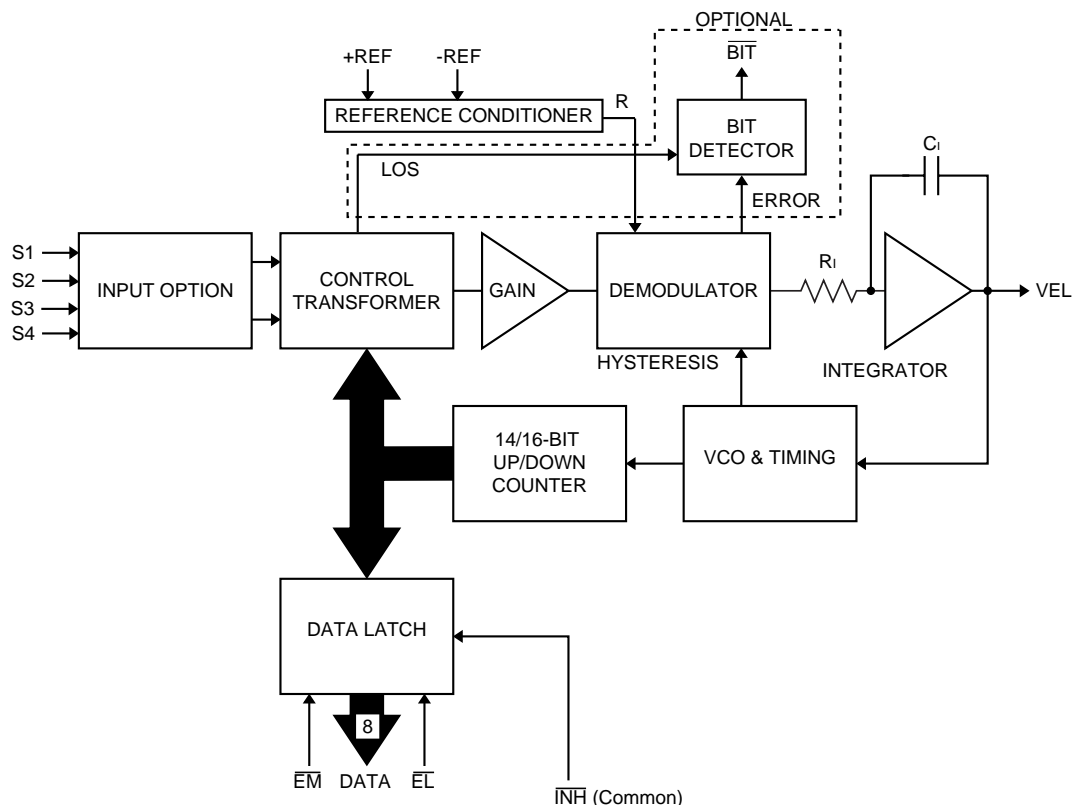

FIGURE 1. SDC-14610/15 BLOCK DIAGRAM (ONE CHANNEL)
FIGURE 1 is the Functional Block Diagram of SDC-14610/15 Series. The converter operates with ± 5 V dc power supplies. Analog signals are referenced to analog ground, which is at ground potential. The converter is made up of three main sections; an input front-end, a converter, and a digital interface. The converter front-end differs for synchro, resolver and direct inputs. An electronic Scott-T is used for synchro inputs, a resolver conditioner for resolver inputs and a sine and cosine voltage follower for direct inputs. These amplifiers feed the high accuracy Control Transformer (CT). Its other input is the 14-bit digital angle ϕ . Its output is an analog error angle, or difference angle, between the two inputs. The CT performs the ratiometric trigonometric computation of $\sin\theta\cos\phi - \cos\theta\sin\phi = \sin(\theta - \phi)$ using amplifiers, switches, logic and capacitors in precision ratios.
The dynamic performance of the converter can be determined from its functional block diagram and its bode plots (open and closed loop); these are shown in FIGURES 1 and 2 respectively.